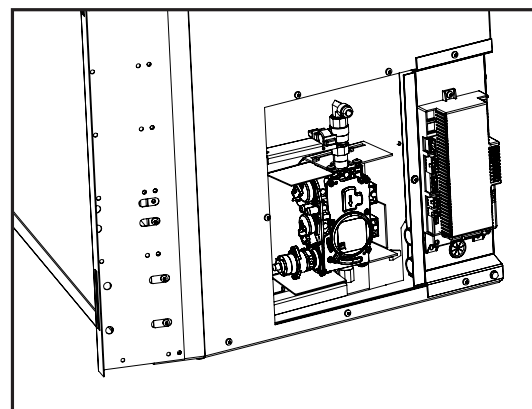

Figure 34: Gas Valve with Cover Removed.
- A $\frac{3}{8}$ " 45° flared fitting and flex connector are supplied with the unit (see Figures 34 and 35). Consult the local authorities for local codes or use the CAN/CGA B149 (1 or 2) installation code in Canada. In the US, gas installations follow either local codes or the current edition of the National Fuel Gas Code ANSI Z223.1.